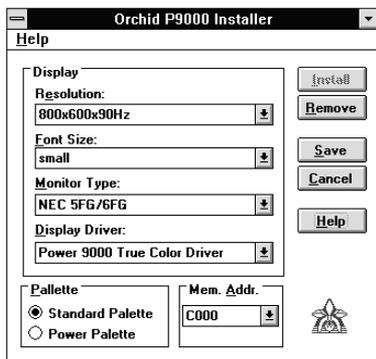

Figure 2.2: Power 9000 Installation Menu
5. If the initial screen of the installation program displays a dialog box to select whether you have 1MB or 2MB of video memory installed, click on the 2MB selection, then click OK. The menu in Figure 2.2 will appear: